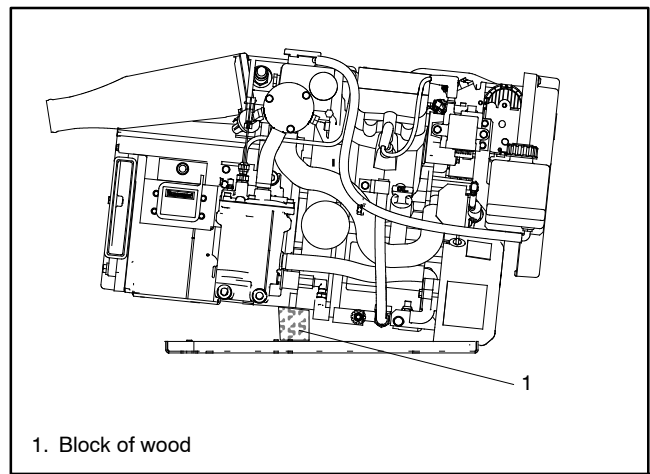

Figure 6-4 Raising the Generator
20. Tilt the generator set up and brace it with a block of wood. See Figure 6-4.